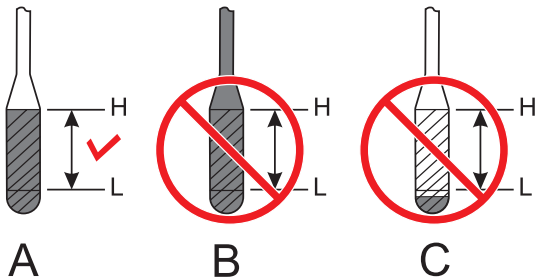

Figure 34. Engine Oil Dipstick
3. Reinsert the dipstick, then remove the dipstick from its holder. Check the oil level shown on the dipstick (Figure 34).
4. Verify that the engine oil level is maintained between the H and L markings on the dipstick as referenced in Figure 34.